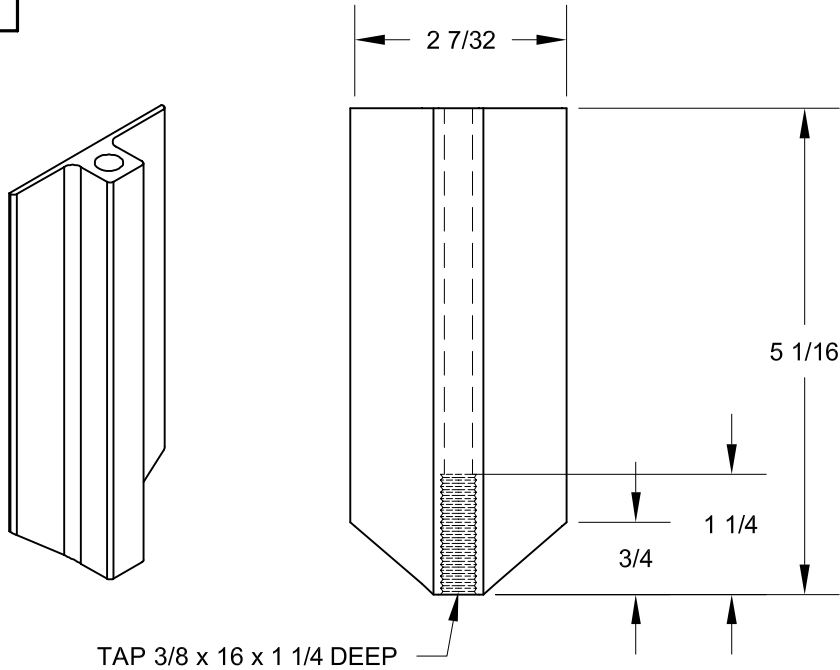

FIGURE 1: F-1012E TIE DOWN BAR
Step 1: Make the F-1012E Tie Down Bar from the length of AEX TIE DOWN X 7.500 provided in the kit. Trim to size, then tap as shown in Figure 1.